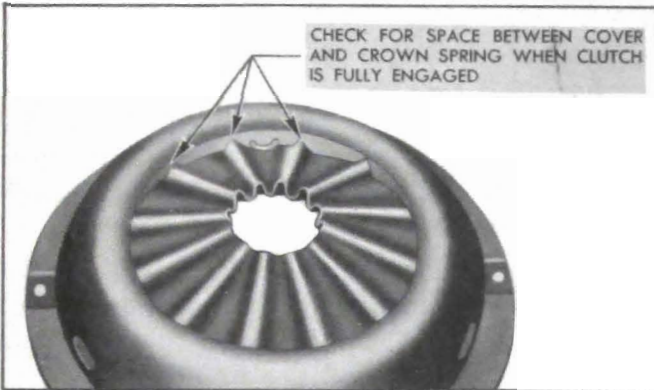
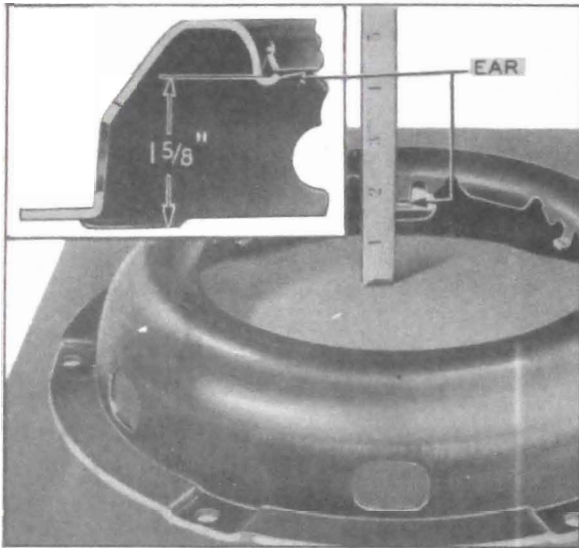

Figure 4-7—Points to Check Contact of Clutch Spring with Cover
Figure 4-9—Setting of Spring Retainer Ears on Clutch Cover
9. On *Series 40*, have a helper hold clutch fully disengaged, then check with a feeler gauge for space between cover and clutch spring at points of contact. See figure 4-7. The clutch will not fully disengage if any one of the clutch spring contact points fails to solidly contact the cover. This condition must be corrected by removing clutch and properly setting the spring retainer ears on cover. See figure 4-9.
2a. *Clutch Cover, Series 40.* Inspect clutch cover for cracks or distortion. Place cover on a flat surface and measure setting of each of the six ears where spring retainers are attached. The dimension from flange surface of cover to top surface of each ear should be $1\frac{5}{8}$ inch. See figure 4-9. If dimension is not $1\frac{5}{8}$ inch, and cover is otherwise serviceable, the ears should be bent as required, using care to avoid cracking the metal.